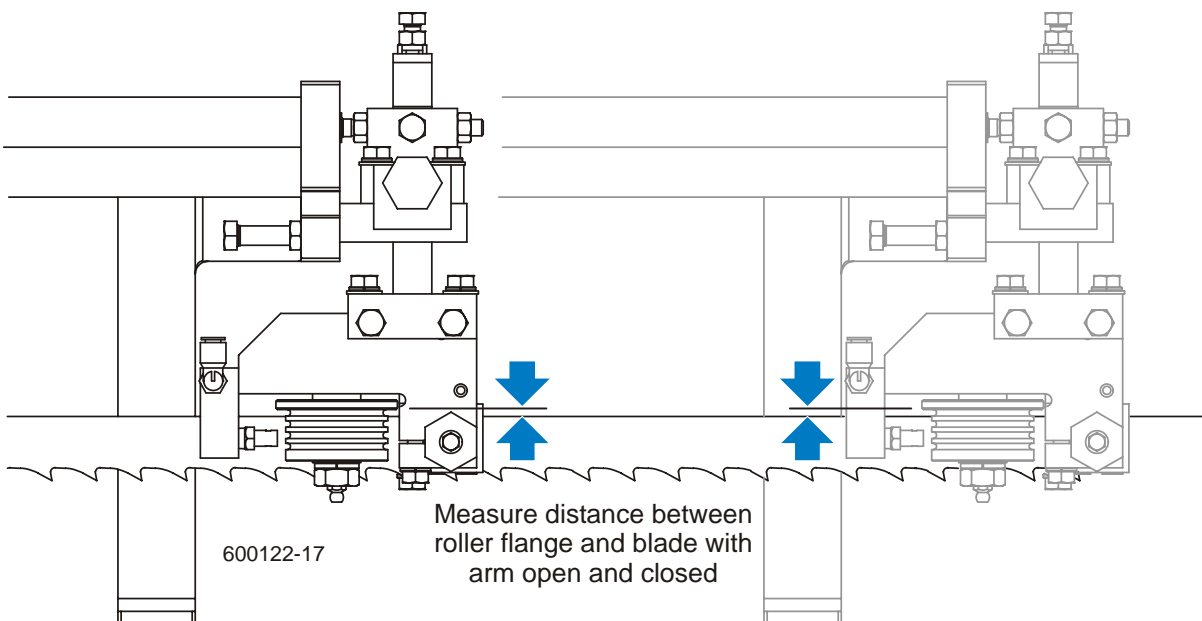

**FIG. 7-30**
**See Figure 7-30.** Loosen the jam nuts and turn the adjustment bolts in to tighten the blade guide arm rollers. Retighten the jam nuts.